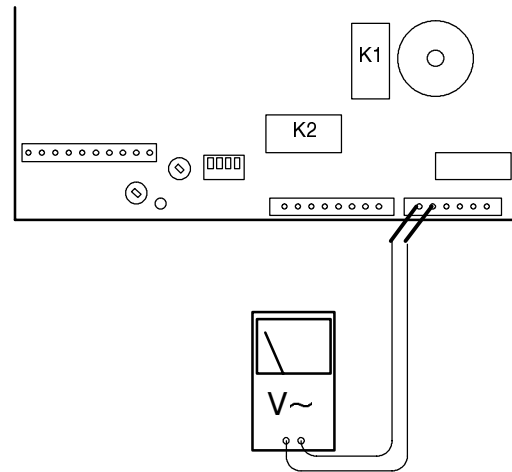

fig. 58
- 2 Connect a meter, set for alternating voltage (230V) measurement, to the points indicated in fig. 58.